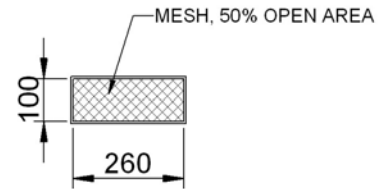

**Fig. 6**
5. For an **'elevated' installation** (See Fig. 6), fix two extra noggins (90x45x955) across the front opening of the enclosure, one at the bottom and the other at the desired 'elevation' height. These extra nogs will carry the front cladding below the heater. Fix two 90x45 bearers running from front to back behind the top extra noggins, positioned 250mm each side of the enclosure centerline to provide support for the shielding box rails. The bearer tops must be flush with the top of the top extra nog. Provide a suitable support at the rear ends of the bearers to carry the weight of the appliance. The shielding box can sit directly on the bearers. No insulation is necessary. The usual three noggins may be fixed at each side of the enclosure. At the front, the lowest wooden nog must have its lower face at least 1200mm above the top of the floor protector (or 1200mm above the bearers for an elevated installation). Further wooden nogs can be fitted above this one.